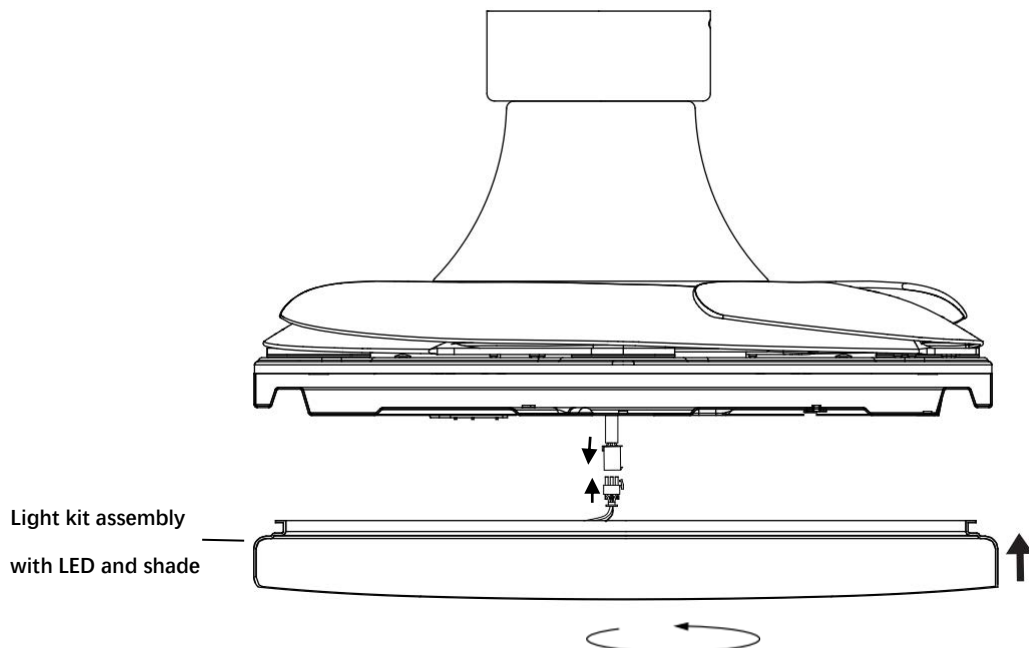

Fig. 7
4. Connect the quick connector to the light kit assembly with LED and shade . (Fig. 7)
5. Finally install the light kit assembly with LED and Shade to the light kit plate by turning it clockwise (Fig. 7)